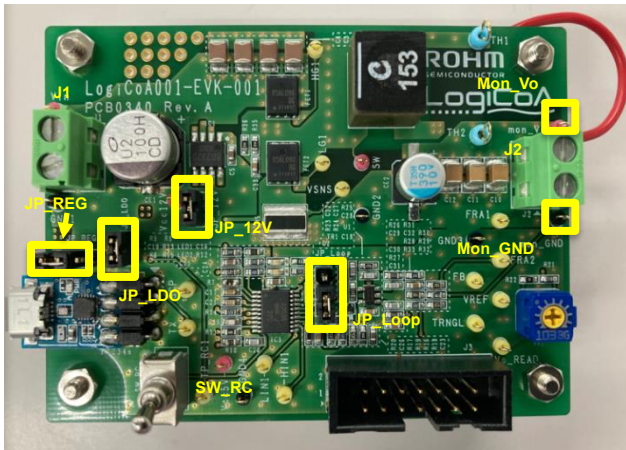

Figure 1-1. LogiCoA001-EVK-001(Top View)
Figures 1-1 and 1-2 show the appearance of this EVK.
2. Turn the SW\_RC to connect pin 1 and pin 2 on EVK. (Turn the switch to the upper side in the board direction of Figure 1-1)